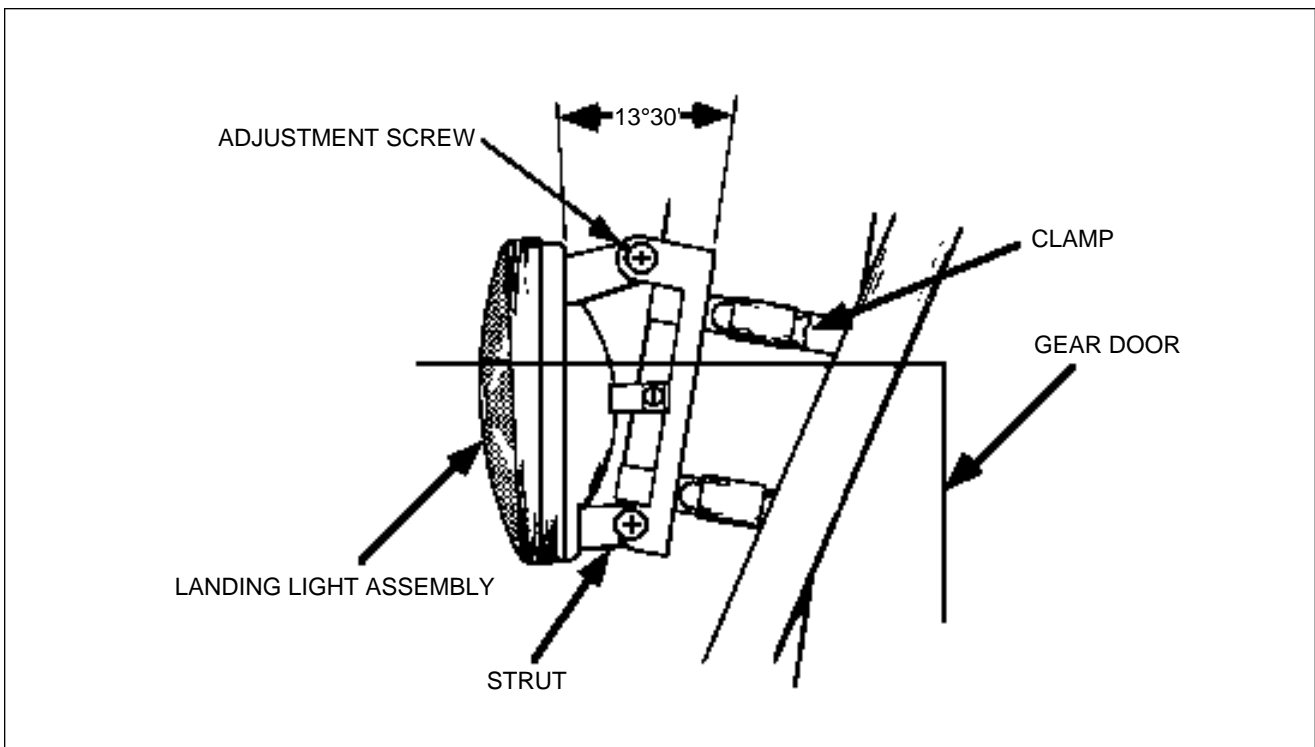

Figure 33-3. Landing Light Adjustment
REMOVAL OF LANDING AND TAXI LIGHTS (Refer to Figure 33-3.)
INSTALLATION OF LANDING AND TAXI LIGHTS (Refer to Figure 33-3.)
3. To install the landing light assembly to the strut, position the assembly against the strut housing with the bottom of the mounting fixture 2.9 inches up from the bottom of the strut housing. (Refer to Figure 33-3.)